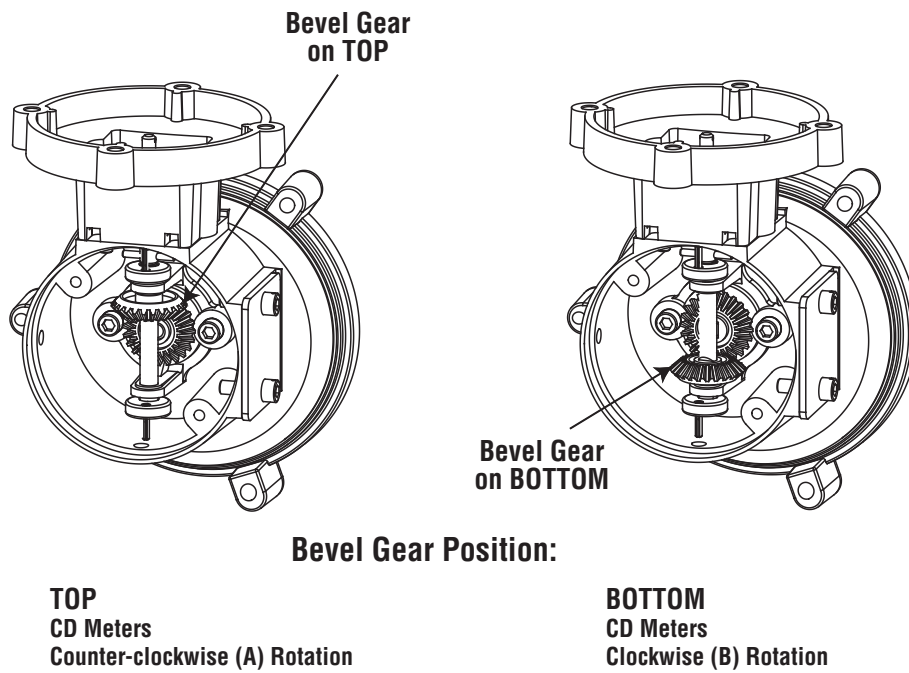

Figure 15 - Placement of bevel gears determines rotational direction.
9. Ensure the rotation is set as desired and the modular gear assembly meshes properly with the ID drive shaft. Refer to figure 15 for rotational direction. Windmill the meter or rotate the modular assembly a minimum of one revolution to ensure proper rotation of the Drive Dog.
3. Rotate the modular drive assembly 180° to obtain the proper Drive Dog rotation (refer to Figure 15). Making sure the O-ring behind modular assembly remains in place, re-install the modular gear assembly in the vertical position. Torque the screws to 5 in.-lb.